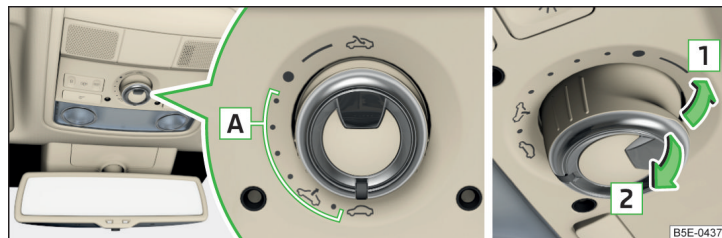

Fig. 44 Operation of the sliding/tilting roof
Operation of the sliding/tilting roof » Fig. 44
The sliding/tilting roof is fitted with a force limiter. The sliding/tilting roof stops and moves back several centimetres when it cannot be closed because there is something in the way (e.g. ice). The sliding/tilting roof can be fully closed without a force limiter by pulling the recess of the switch in arrow direction **2** » Fig. 44 until the sliding/tilting roof is fully closed » **!**.
- Set the switch to the position  » Fig. 44 on page 66.